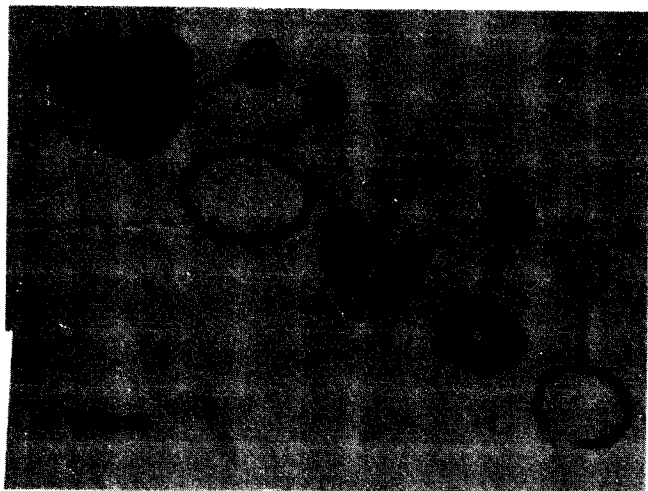

Figure 13-21
Using snap ring pliers, remove retaining ring (5, Fig. 13-21). Remove spring retainer (4) and spring (3) from piston (1). Discard "O" ring (2) from groove in piston.
Install a new "O" ring (2, Fig. 13-21) in groove on primary piston (1). Insert spring (3) and retainer (4) into piston and secure with retaining ring (5).